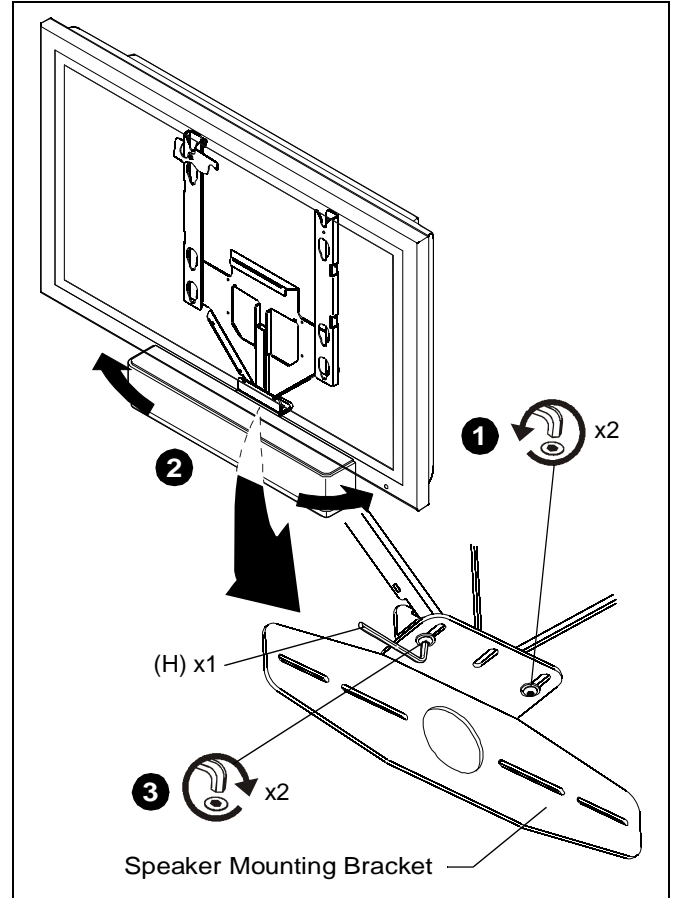

Figure 7
1. Loosen two button head cap screws securing speaker mounting bracket to speaker vertical adjustment bracket using 1/8" hex wrench (H) provided. (See Figure 7)
3. Tighten two button head cap screws securing speaker mounting bracket to speaker vertical adjustment bracket using 1/8" hex wrench (H) provided. (See Figure 7)